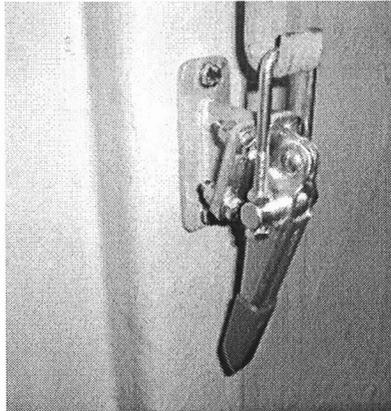

Fig. 37 Lock on the left nacelle wall
- Open the two locks on the left nacelle wall, see Fig.37